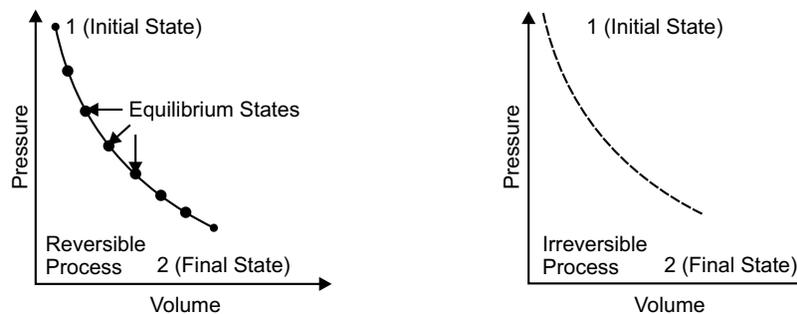

Fig. 3.1 (a) and (b)
- (a) When a system changes from one equilibrium state to another equilibrium state, the path of successive states through which the system has passed, is known as a *thermodynamic process*. But in actual practice, no system is in true equilibrium during the process because the properties such as pressure, volume, temperature etc., are changing. However, if the process is assumed to take place sufficiently slowly so that the deviation of the properties at the intermediate states are infinitesimally small, then every state passed through by the system will be in equilibrium and the process is named as *quasi-static* or *reversible* process. It is represented by a *continuous curve* on the pressure-volume diagram in Fig. 3.1 (a) and (b).